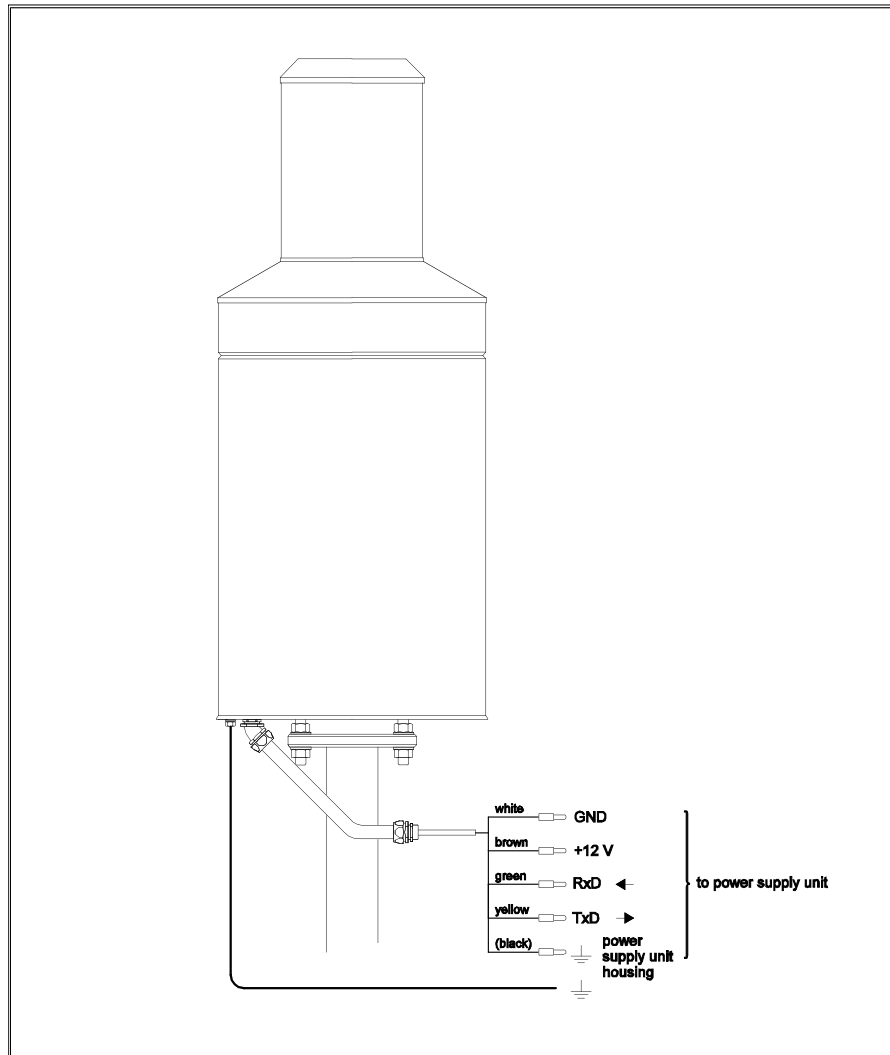

Figure 9
65. Feed the power conductors and signal cables that pass through the conduit attached to the bottom of the AWPAG sensor balance mechanism through the right opening in the bottom of the AWPAG electronics enclosure (see **Figure 9**).